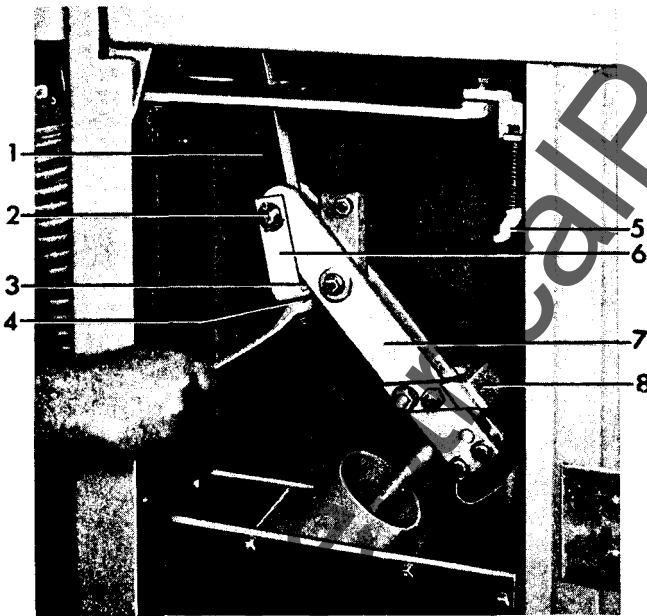

Figure 10. (8038802) Adjustable Coupling For Making Primary Contact Wipe Adjustments.
Refer to Figure 9, when the breaker is closed the stationary primary contacts (1) should rise from  $\frac{1}{4}$ " to  $\frac{5}{16}$ ". Before checking this dimension be sure the mechanism is re-set so that the prop pin (13) Figure 7 is resting on the prop. To obtain the proper contact adjustment, open the breaker and, referring to Figure 10, loosen the check nut (4) and turn the adjusting nut (3). Screwing up on the adjusting nut will decrease the primary contact wipe, down will increase it. Tighten the check nut, close the breaker and recheck the wipe. With the primary contact wipe correctly adjusted, the clearance between the contact arm (6) Figure 9 and the buffer block (3) should be  $\frac{1}{16}$ " or greater when the breaker is fully closed.
Refer to Figure 10. With the breaker closed, press the manual trip button allowing the breaker to trip open normally. Do not force the contacts open wider by hand. The gap between the stationary primary contacts (5) and the movable primary contact (8) measured between the closest points, should be 5-1/8" to 5-9/16". To change this gap, loosen the check nut (17) Figure 7, and turn the adjusting nut (18) on stud (19). Screwing the adjusting nut down will decrease the primary contact gap. Tighten the check nut and re-measure the contact gap (close and trip the breaker before checking the measurement).